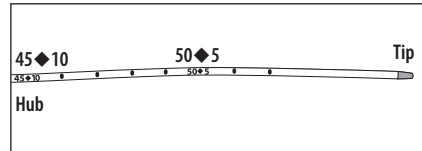

Figure 24
- Double numbering pattern (refer to Figure 24):